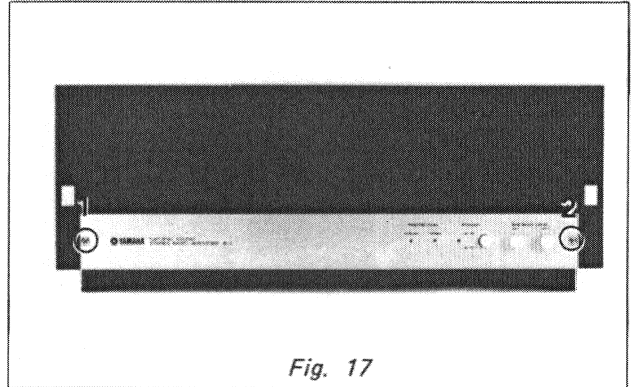

Fig. 17
- a. Remove the B-I front panel screws (1) and (2) as shown in Fig. 17.